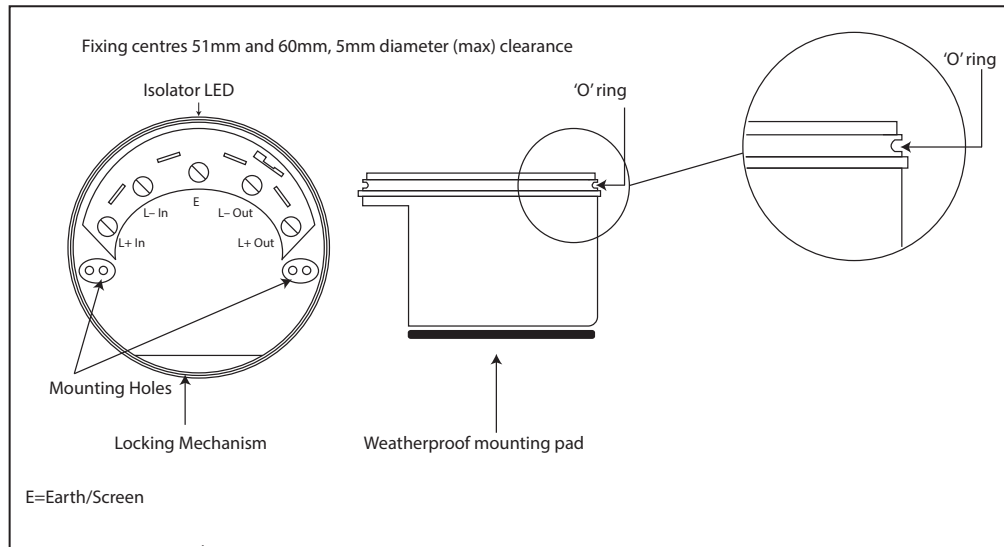

Fig. 2- Base diagram
2. Secure the base to the mounting surface with pan-head screws. If IP65 integrity is required, fit the weatherproof mounting pad between the base and the mounting surface. Fit the 'O' ring to the base (Fig. 2) using a lubricant such as silicone grease.
4. To lock the sounder in the base, snip the break-out on the base rim (location shown in Fig. 2). Fit the sounder to the base.